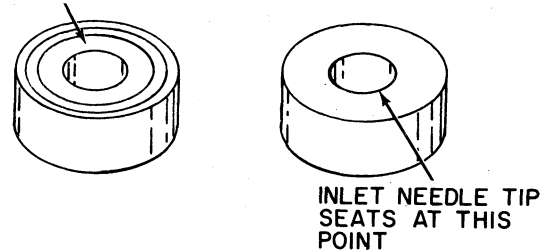

Figure 3
2. Insert the inlet seat in the body passage, with the grooved side of the seat first, as shown in Figure 3. A little oil in the passage helps. Use a flat punch to position the seat.